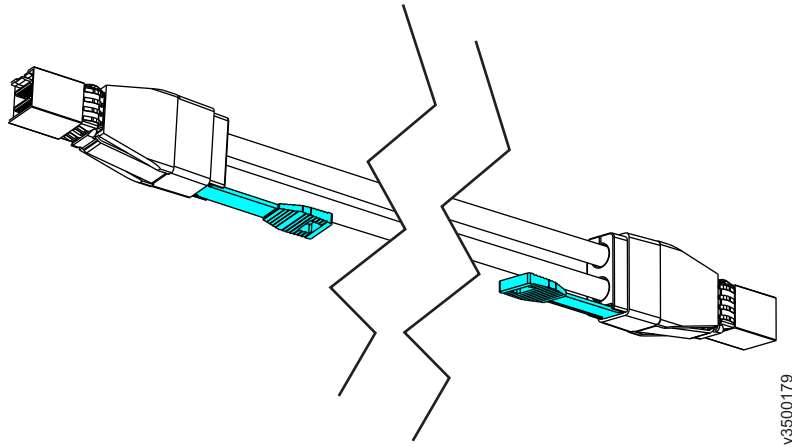

Figure 133. Mini SAS HD to Mini SAS HD cable
- Mini SAS HD to Mini SAS HD (Figure 133 on page 150)